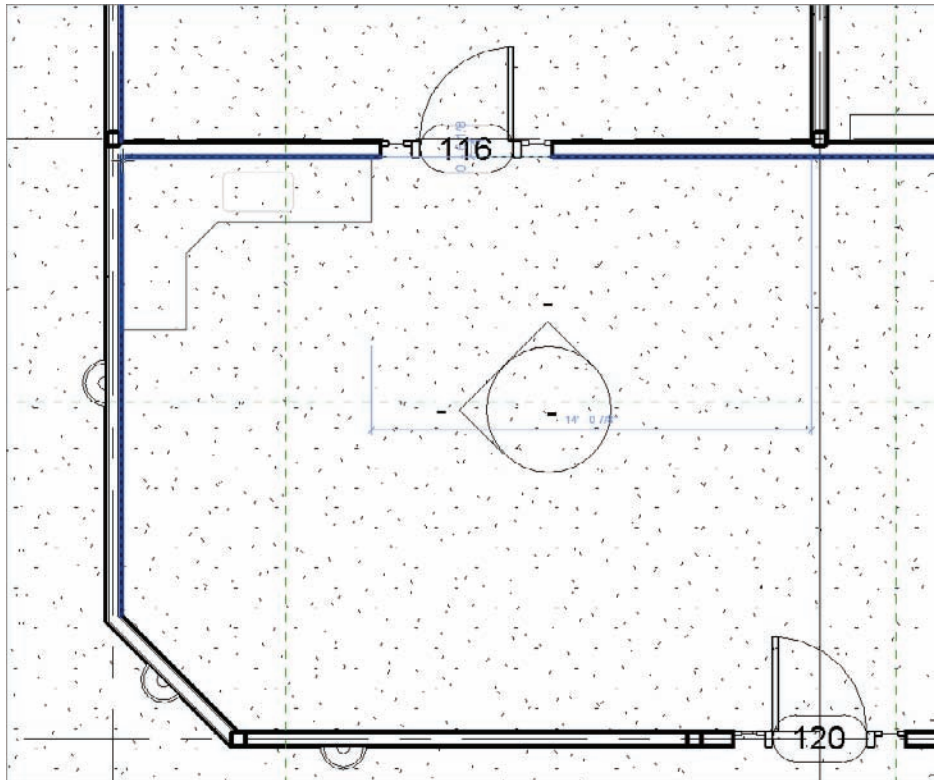

FIGURE 9.56 Adding the countertop
7. Open Floor Plan Level 1. Zoom in on the kitchen area, as shown in Figure 9.56.
8. Add the countertop, as shown in Figure 9.56.